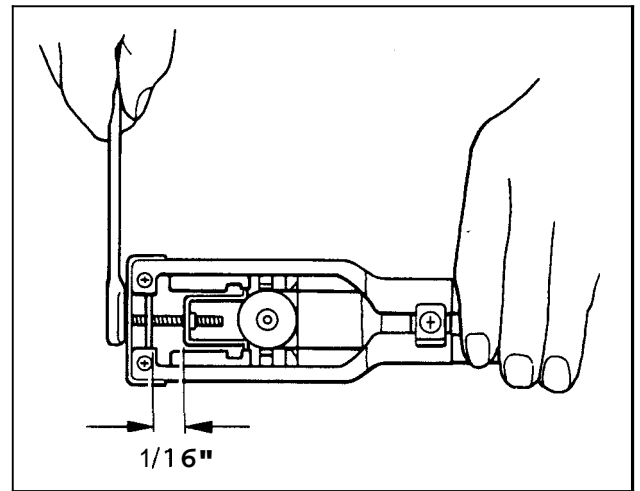

Fig. 20
7. With the provided wrench turn the tension-adjusting bolt clockwise leaving a gap between tension plates of approximately $1/16''$, or the thickness of a nickel. (Fig. 20)